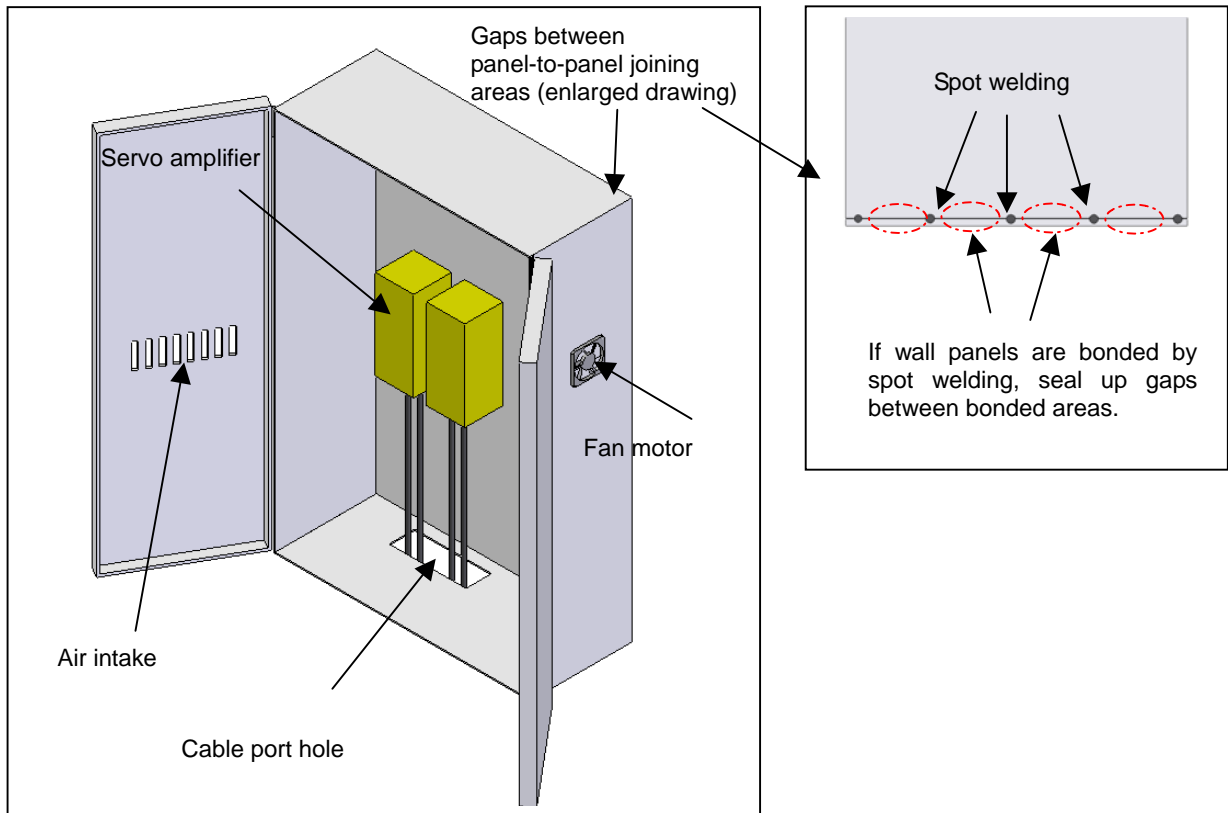

Fig. G.2.1 (a) Example of power magnetics cabinet not sealed well (example of poor work)
- <2> Do not make any hole in the cabinet wall panel to install a fan motor in the hole (Fig. G.2.1 (a)). In order to release heat from the cabinet to the outside, use a device (such as a heat exchanger or cooler) having a structure that will not hamper seal-up of the cabinet.
<4> Keep the cable port free of gaps (Fig. G.2.1 (a)).